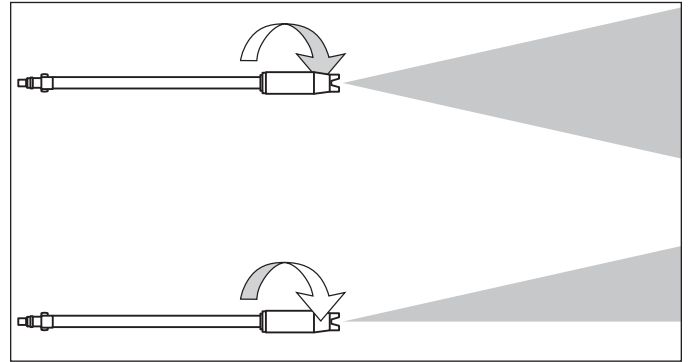

Figure 6 – Spray Adjust
4. Spray pattern shape and intensity can be changed by twisting the spray adjuster at the end of the lance. Keep hands clear of the front of the lance to prevent injury. See Figure 6.